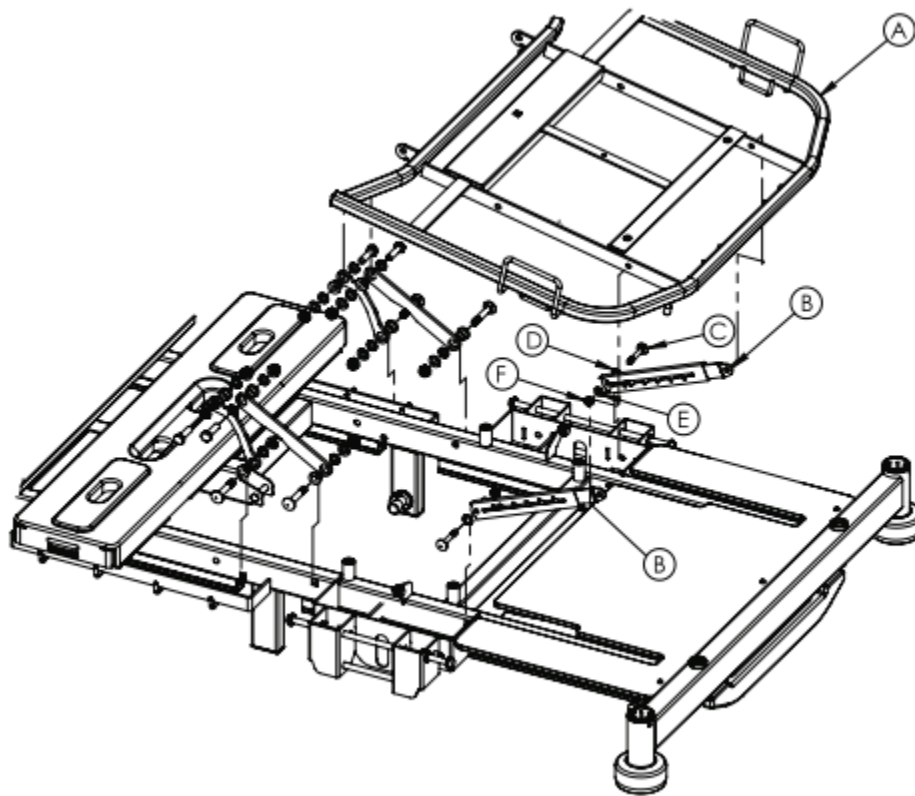

Figure 11 – Lower leg section locking mechanism
4. Raise the lower leg section (A) (Figure 11).
6. Using a 13 mm combination wrench and a 13 mm socket, remove and save the upper bolt and nut that secure the lower leg section locking mechanism (B) to the foot section weldment (Figure 11).
7. Using a 13 mm socket, remove and save the bolt (C), washers (D, E), and nut (F) that secures the bottom of the lower leg section locking mechanism to the litter frame (Figure 11).
8. Remove and discard the lower leg section locking mechanism (B) (Figure 11).